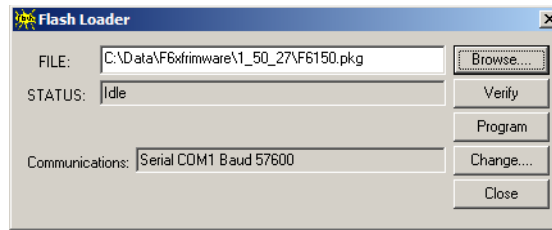

Figure A.2 Flash Loader Browsing
3. Click on the Browse button and browse to the firmware package file. Click **Open** to select the file (Figure A.2).